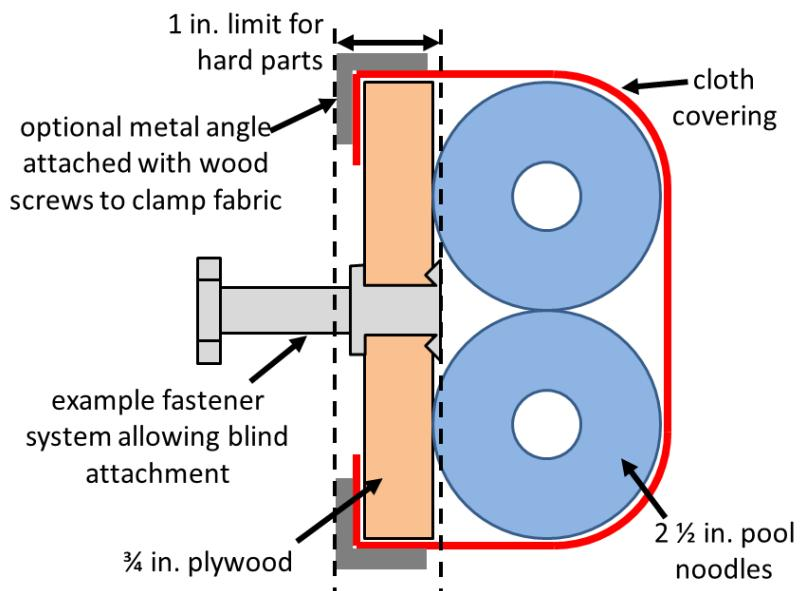
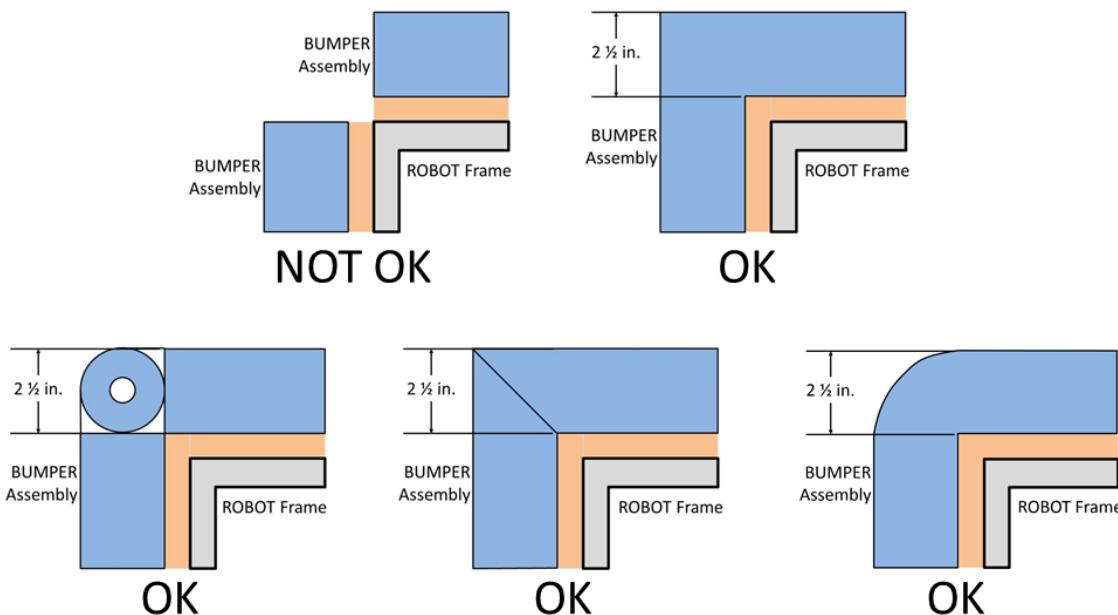

Figure 9-6 BUMPER Vertical Cross Section
Figure 9-7 Soft Parts of BUMPER Corners
**R24.** BUMPERS must be constructed as follows (see Figure 9-6):
- C. use a stacked pair of approximately 2½ in. (nominal, ~63mm) round, petal, or hex “pool noodles” (solid or hollow) as the BUMPER cushion material (see Figure 9-6). All pool noodles used in a BUMPER set (e.g. Red set of BUMPERS) may not be modified (with the exception of cutting to length or beveling ends) or deformed and must be the same diameter, cross-section, and density (e.g. all round hollow or all hex solid). Cushion material may extend up to 2½ in. (~63 mm) beyond the end of the plywood (see Figure 9-7). To assist in applying the fabric covering, soft fasteners may be used to attach the pool noodles to the wood backing, so long as the cross section in Figure 9-6 is not significantly altered (e.g. tape compressing the pool noodles).
- D. be covered with a rugged, smooth cloth. (multiple layers of cloth and seams are permitted if needed to accommodate R21, provided the cross section in Figure 9-6 is not significantly altered).
- E. optionally use metal angle, as shown in Figure 9-6 or other fasteners (e.g. staples, screws, etc.) to clamp cloth.
**R25.** Corner joints between BUMPERS must be filled with pool noodle material. Examples of implementation are shown in Figure 9-7.